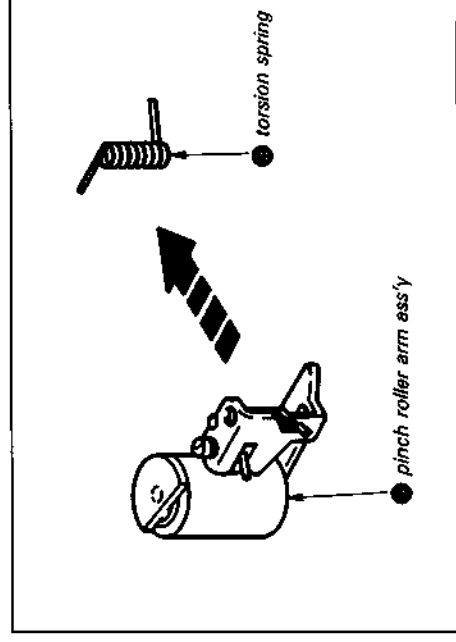

Fig. 7-18.
- 6) Remove torsion spring ●. (See Fig. 7-18.)